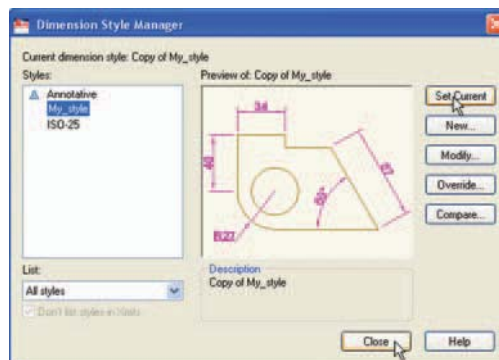

Fig. 4.14 The **Dimension Style Manager** reappears. Click the **Set Current** and **Close** buttons
9. *Enter* a suitable name in the **New style name** field – in this example this is **My-style**. *Click* the **Continue** button and the **Dimension Style Manager** appears (Fig. 4.14). This dialog now shows a preview of the **My-style** dimensions. *Click* the dialog's **Set Current** button, followed by another *click* on the **Close** button (Fig. 4.14).